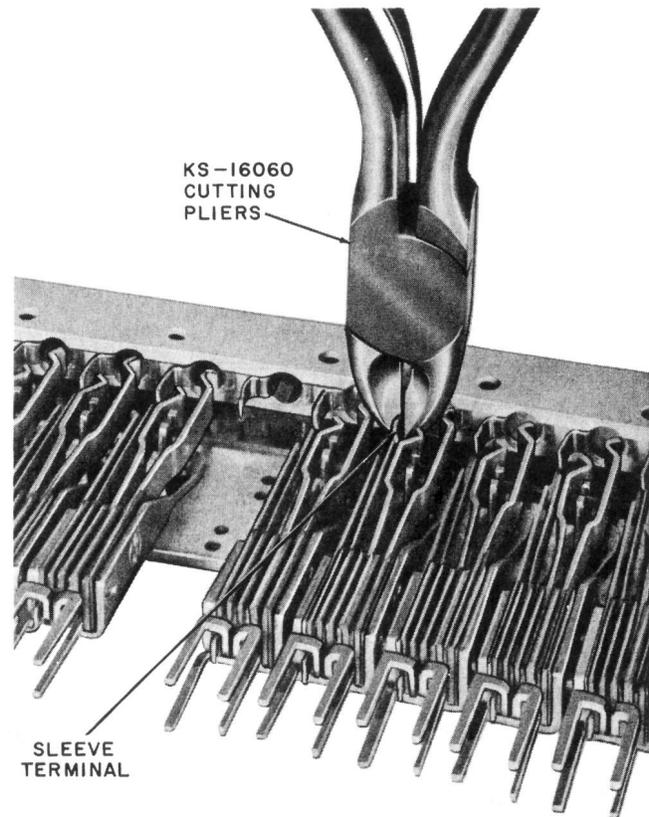
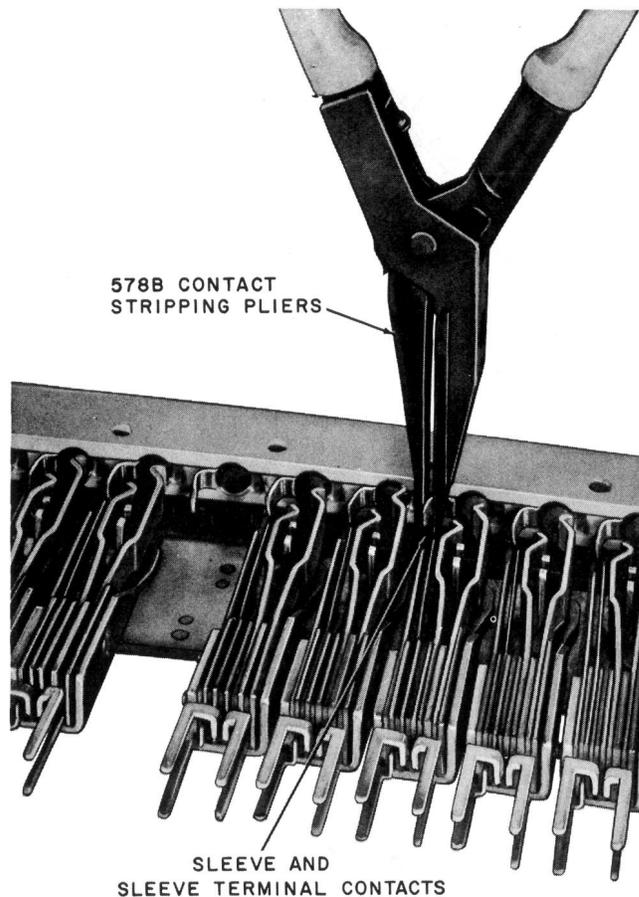

Fig. 8—Method of Cutting Welded Sleeve Terminals on 510-, 511-, and 512-Type Jacks
Fig. 9—Method of Shearing Contacts of Sleeve and Sleeve Terminal on 510-, 511-, and 512-Type Jacks Using 578B Contact Stripping Pliers
3.14 If the contacts of the sleeve and sleeve terminal are soldered together, unsolder the contacts with the KS-14440 soldering copper. If the contacts of the sleeve and sleeve terminal are welded together, position the KS-16060 cutting pliers on the terminal of the worn sleeve with the cutting edges adjacent to the rear surface of the face strip. Cut the sleeve at this point. See Fig. 8. Then, break the connection between the contacts using the 578B contact stripping pliers. To do this, span the two contacts with the stripping pliers so the jaw having the hole is against the sleeve terminal contact and the other jaw is against the sleeve contact. Position the contacts within the stripping edges of the jaws and operate the pliers to shear the contacts. See Fig. 9.